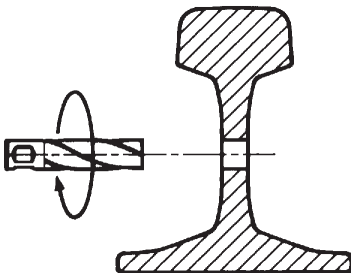

FIG. 2a
- Check the size of the hole with the **CAL 22.23** “GO/NO GO” gauge (Fig. 2a):
- Check the size of the hole with the **CAL 22.23** "GO/NO GO" gauge (Fig. 2a):